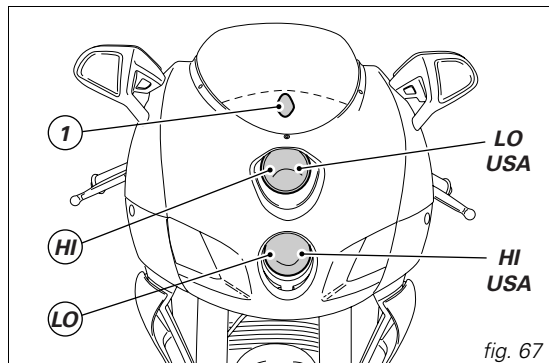

fig. 67
Before replacing a burnt-out bulb, make sure that the new one complies with voltage and wattage as specified in the "Electrical System" paragraph on page 92. Always check that the new bulb works before refitting removed parts. Figure 67 shows the position of the low beam (LO), high beam (HI) and parking light (1) bulbs.